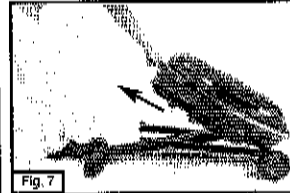

Fig. 7
- Place foot on plastic towing handle, grasp metal handle on stove and lift until stand is fully extended. (Fig. 7)